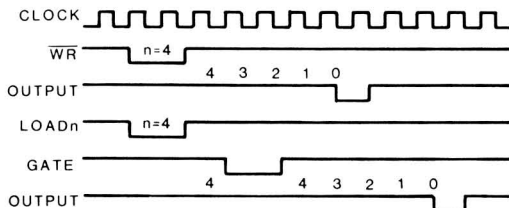

Figure 14-9. Timing Mode 4
**Software Triggerred Strobe (Mode 4)** — Figure 14-9 illustrates Mode 4. In this mode, the counter, when it reaches zero, will place a single pulse that lasts for one clock cycle on its output. Counting will begin when the counter is programmed with a value.